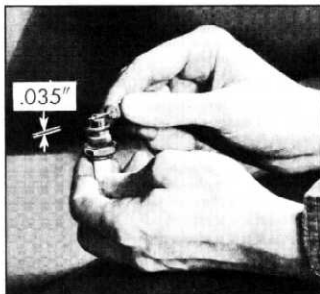

Fig. 51—Setting Spark Plug Gap
- After cleaning the plugs inspect them again for damage that was not visible before cleaning. Set the electrode gaps to .035" using a round feeler gauge (fig. 51).